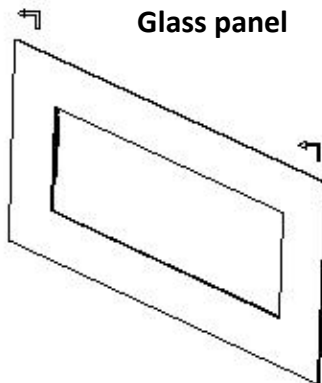

Fig 2.
STEP 6B. Together, carefully remove the front glass panel and set it aside on a clean soft surface. **Fig 2.**